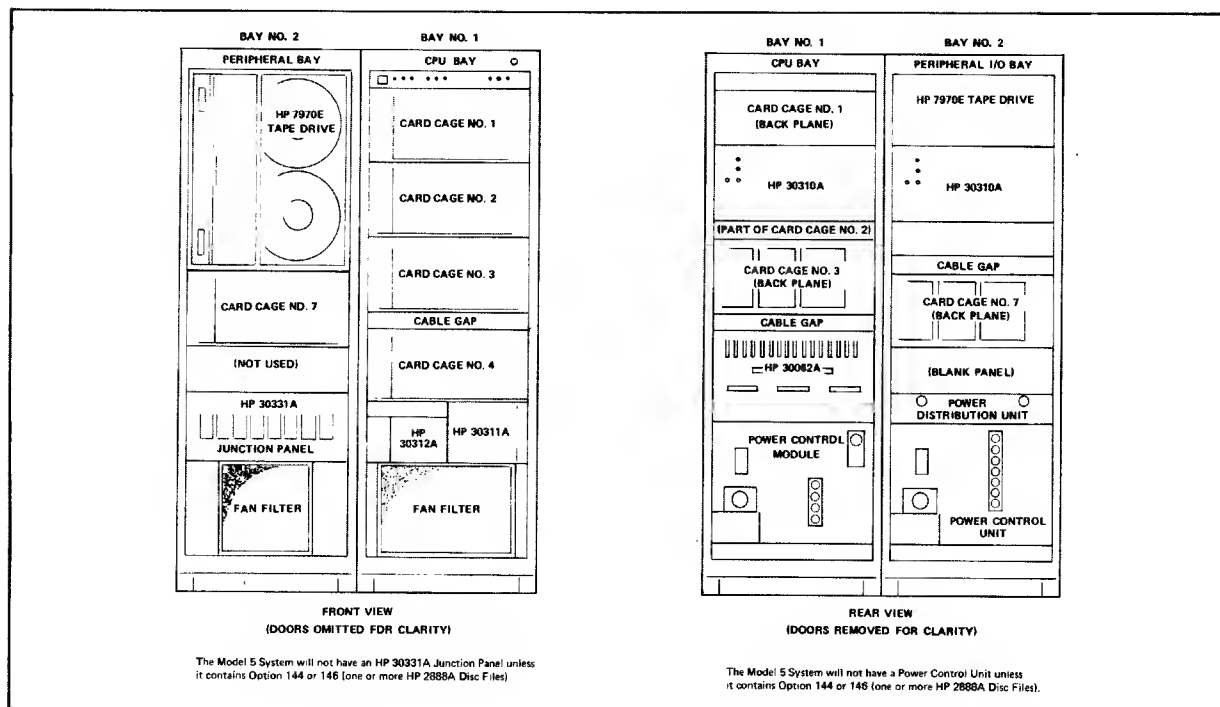

Figure 2-2. HP 3000 Series II Models 5 and 7 Equipment Bays
- two Equipment Bays, containing the main-frame card cages and power supplies (see figure 2-2);